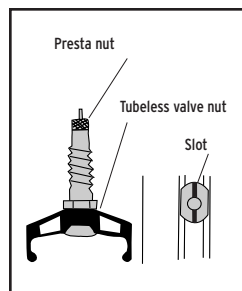
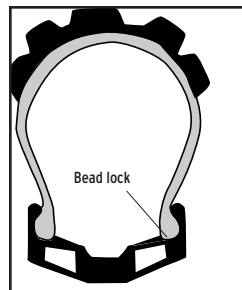

Fig. 1
Fig. 3
2. Align the slot on the head of the special tubeless valve with the rim (Fig. 1). Press the valve stem through the rim strip and rim.
3. Install the tubeless valve nut (Fig. 1) onto the valve, and tighten firmly. There should be no gap between the valve and the rim strip.
1. Begin to inflate the tire. The tubeless valve stem works just like a standard presta valve. Unlock the presta nut (Fig. 1), and use a pump with a presta fitting. Initially, its best to inflate the tubeless tire as rapidly as possible. This forces the beads out to the rim hook where they will seal (Fig. 3).
2. With the tire beads sealed to the rim hook, inflate the tire to about 60PSI (4 ATM) until the tire beads lock into the rim well (Fig. 3).
3. Visually check that the beads are seated correctly in their locked position(Fig. 3). Most tires have lines or marks running around the casing, just above the bead. When correctly installed, these lines are at an even distance from the rim. When the beads are correctly seated all around the rim, inflate (or deflate) to the desired pressure.